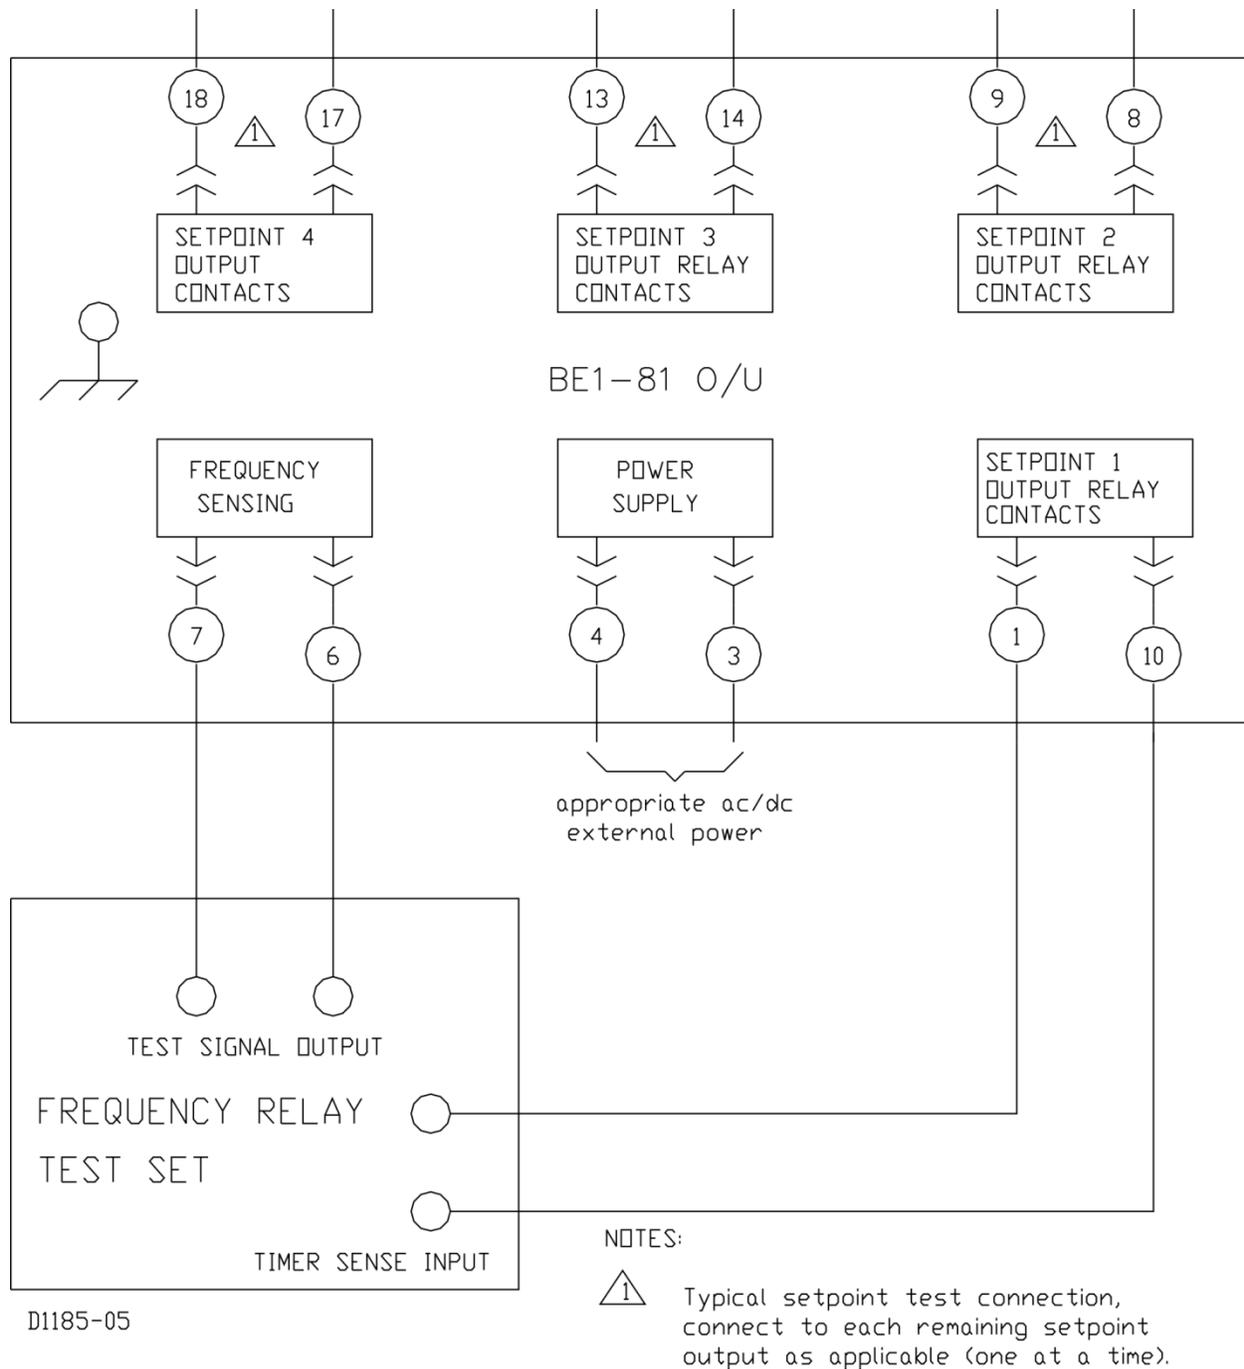

Figure 5-1. BE1-81O/U Test Connections
Minimum test equipment requirements are listed below. Test connections are shown in Figure 5-1.
1. Connect the relay as shown in Figure 5-1.
- Over/Under Selector Switch: Over (O) position
- Over/Under Selector Switch: Under (U) position